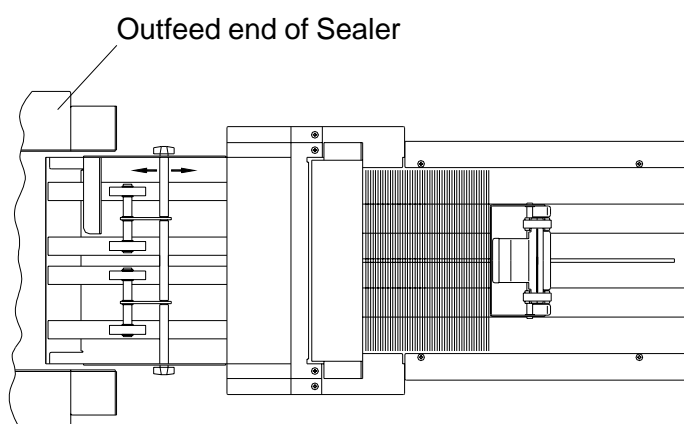

FIG. 3
4. Position the stacker into the machine as shown in Fig. 3 below.